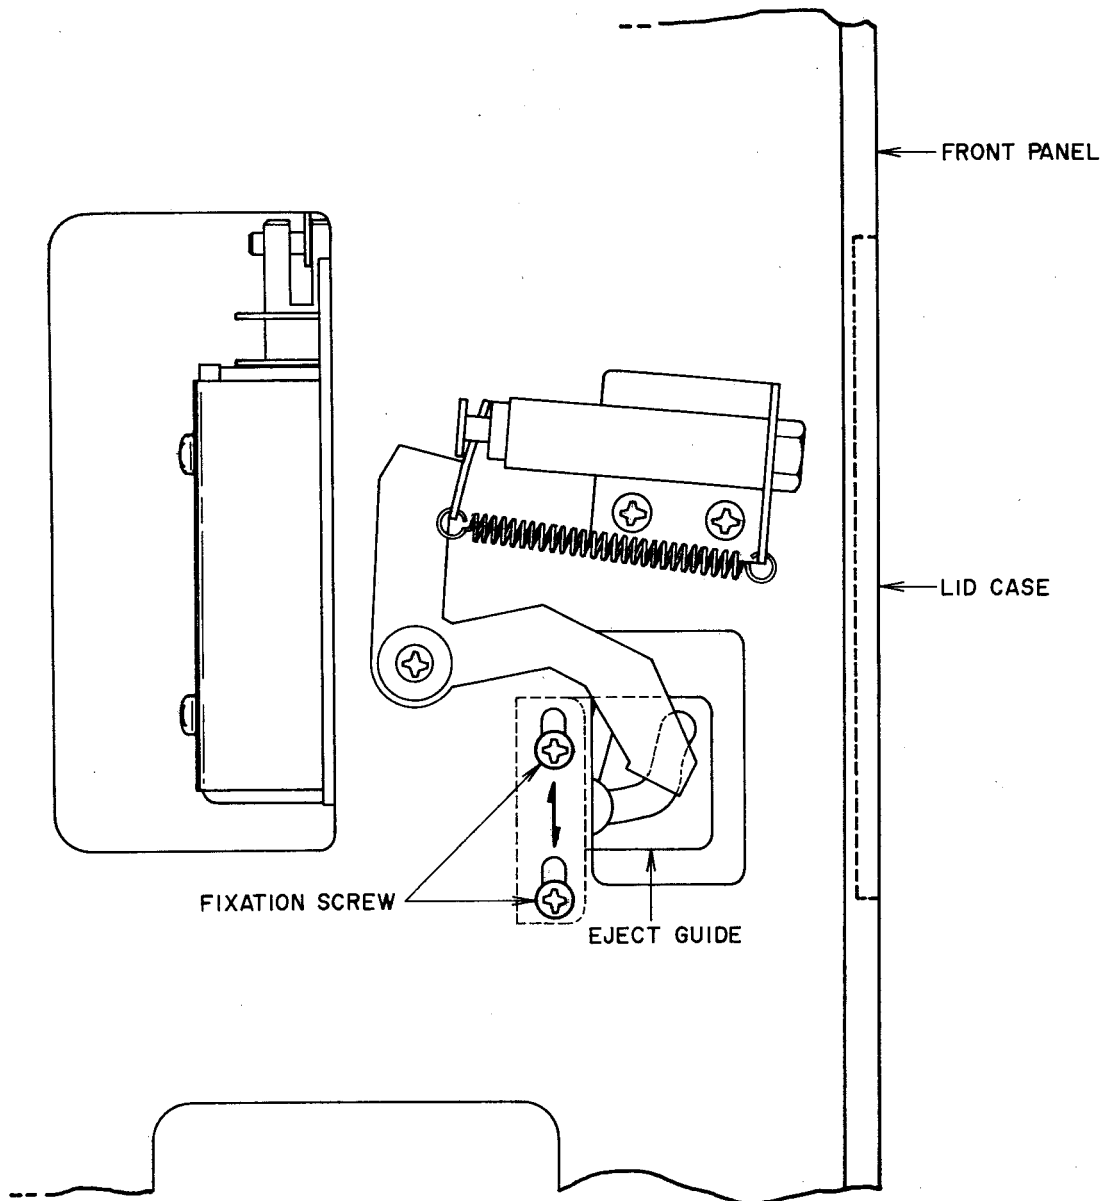

Fig. 13 Left Side of the Deck
10) Position Adjustment of Lid Case (Refer to Fig. 13)
Move the Eject Guide shown in Fig. 13 (direction indicated by arrow mark) up and down and adjust Lid case so that it is even with the front panel. If the upper part of Lid case comes too far inward, raise the eject guide, and if too far outward, lower eject guide.